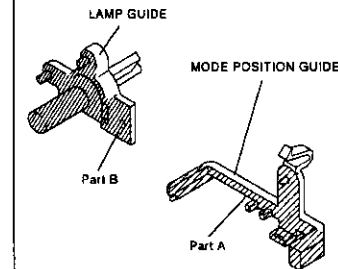

Fig. 2-7-2
1. Clean the part A of the MODE POSITION GUIDE shown in Fig. 2-7-2 with the VIDEO HEAD CLEANING CLOTH. Note: Never use alcohol or equivalent solvent.
3. Clean the part B of the LAMP GUIDE shown in Fig. 2-7-2 with the VIDEO HEAD CLEANING CLOTH. Note: Never use alcohol or equivalent solvent.